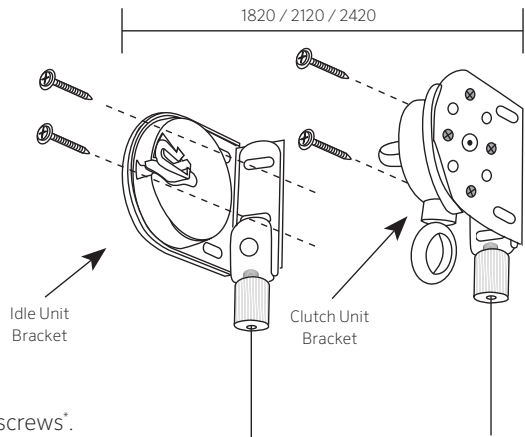

Fig 1
- c. Your blind comes standard with the clutch on the right side of the blind (Fig 1) and ready to be mounted on the inside or outside of your window frame.